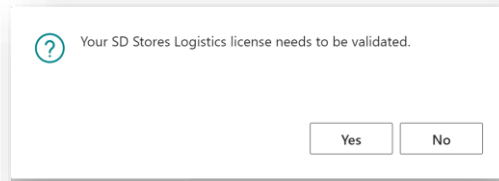

Figure 3-11
1. From the **Tell Me**, search for and select the **SD Stores Logistics Setup** card. You will be prompted that “Your SD Stores Logistics license needs to be validated”. Choose **Yes** (Figure 3-11).